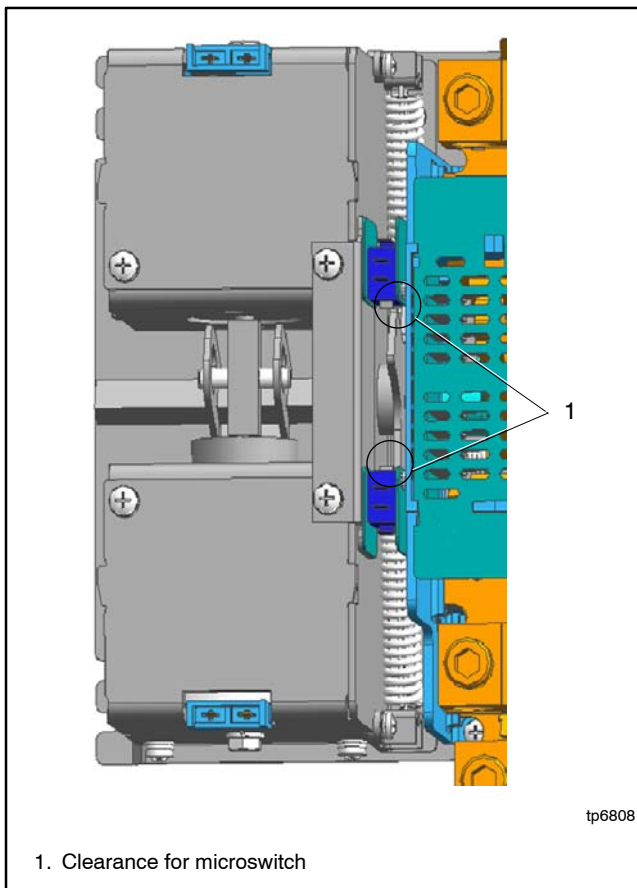

Figure 7-26 Microswitch Clearance
5. Make sure the degree of the clearance for both microswitches is the same. See Figure 7-26. For details, refer to step 3 in **Microswitch Assembly**.